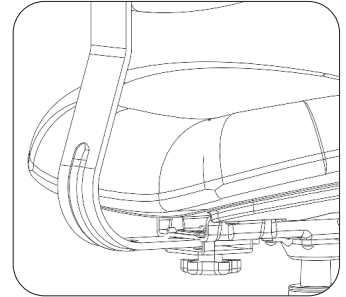

Figure 7
2. Insert the backrest mount through the slot in the control plate (Figure 7)
3. Secure the backrest: Reinstall the washer, star washer and knob, then tighten to set the desired backrest depth (Figure 7)